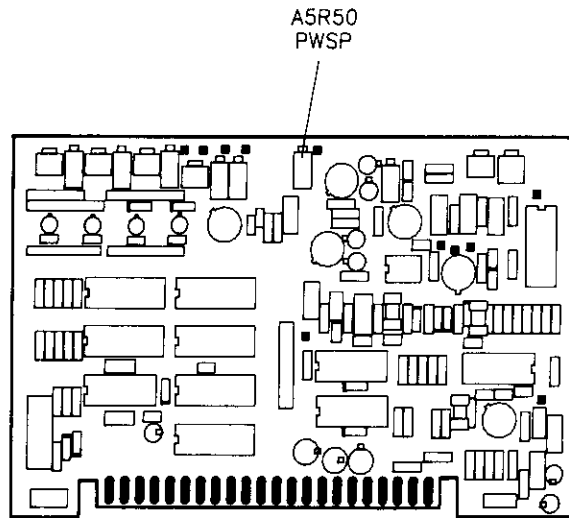
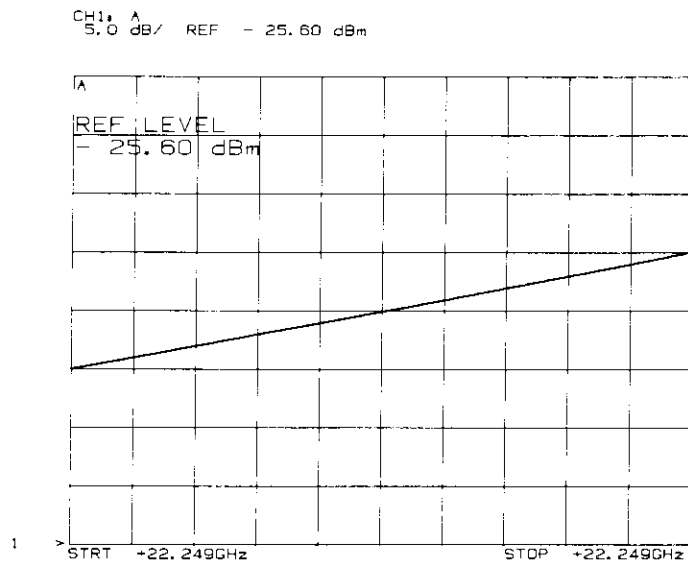

Figure 5-48. Power Sweep Adjustment Location
Figure 5-49. Power Sweep After Adjustment
6. While observing the scalar network analyzer display of the POWER SWEEP output, adjust A5R50 (PWSP) (See Figure 5-48 for adjustment location) for 10 dB/sweep (two major divisions). Refer to Figure 5-49 for properly adjusted power sweep.